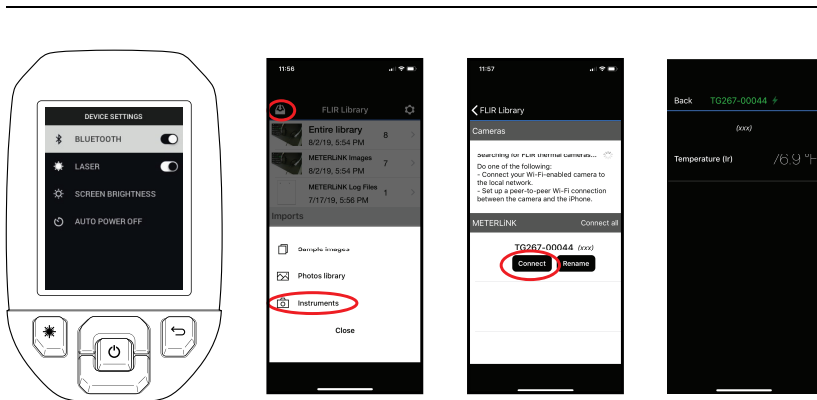

Figure 7.1 Pairing the camera with a Mobile Device
1. Switch the camera's Bluetooth® function ON (*Settings/Device Settings*). See Figure 7.1, below, for illustrations supporting this section.